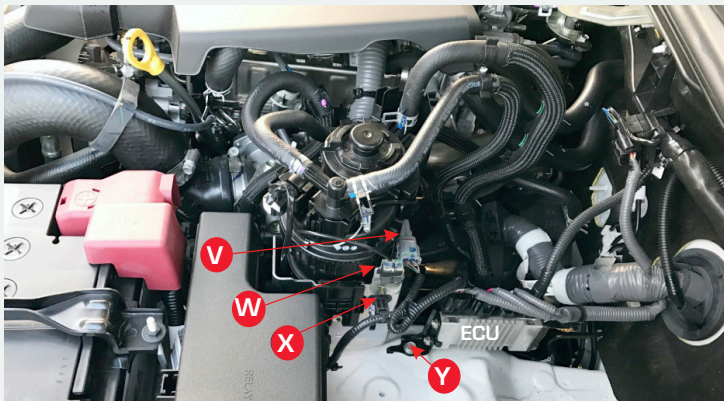

FIGURE 1
- 2 To remove the factory bracket, disconnect electrical connector (V), dismantle filter housing lock cable clip (W) and cable harness clip (X). Remove the bolt securing the ECU to the wheel arch beside the factory filter bracket (Y). See detail in FIG. 1.